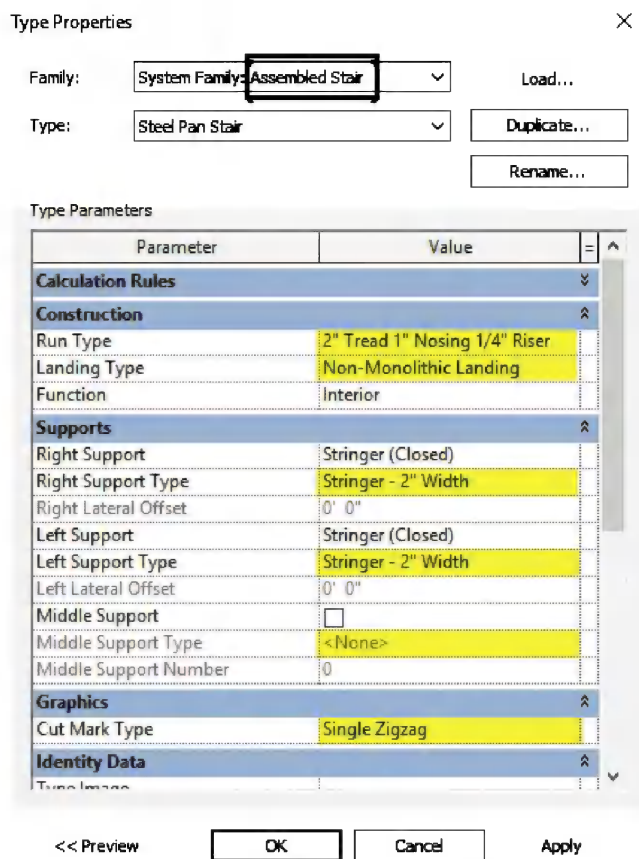
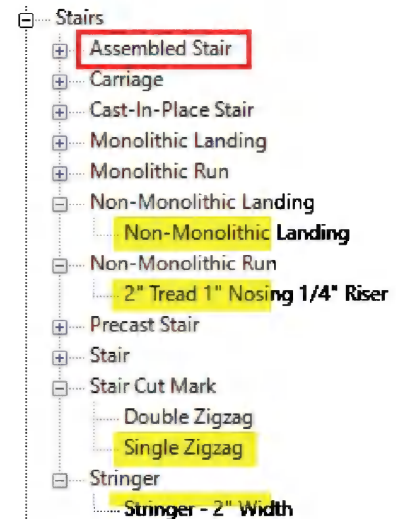

FIGURE 5-3.3 Steel Pan Stair type properties
FIGURE 5-3.4 Component families used by Steel Pan Stair
To see how a Stair by Component type, listed above, makes use of the **component types** take a look at the Type Properties for the “Steel Pan Stair” in Figure 5-3.3. The selected component types, which have been highlighted, can each be seen in the Project Browser as shown in Figure 5-3.4, also highlighted.
**Supports defined:** Both a **Carriage** and a **Stringer** are able to support the stair. In Revit, a carriage is below the riser and treads while a stringer runs alongside them. A *Stair by Component* stair can have three supports, Left, Right and Middle, as seen in Figure 5-3.4. All three supports can be carriage-style but only the Left/Right can be stringers. **FYI:** There is some legacy terminology in Revit that is a bit confusing; a stringer is called “Closed” and a carriage is called “Open.”